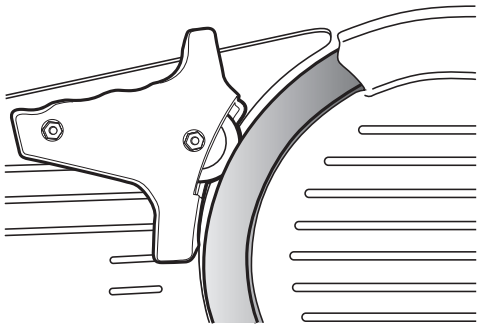

Figure 11. Sharpener in position to sharpen rear facet of blade edge.
9. Place one hand on the thickness control knob and the other hand away from the blade. Then slowly turn the thickness control knob clockwise until the sharpening stone lightly contacts the rear facet of the rotating blade as shown in Figure 11. You will be able to hear when it first contacts the blade. It will be slightly noisy. Maintain the stone in steady but light contact with the blade edge for 30-40 seconds. Then promptly turn the thickness control knob counterclockwise to full open position in order to move the stone away from its contact with the blade. Turn “off” the power switch and unplug the slicer cord from the power outlet. You have now completed the first step of sharpening the rear facet of the blade. This leaves a light burr along the front face of the blade, which must now be removed in Steps 10 through 14.